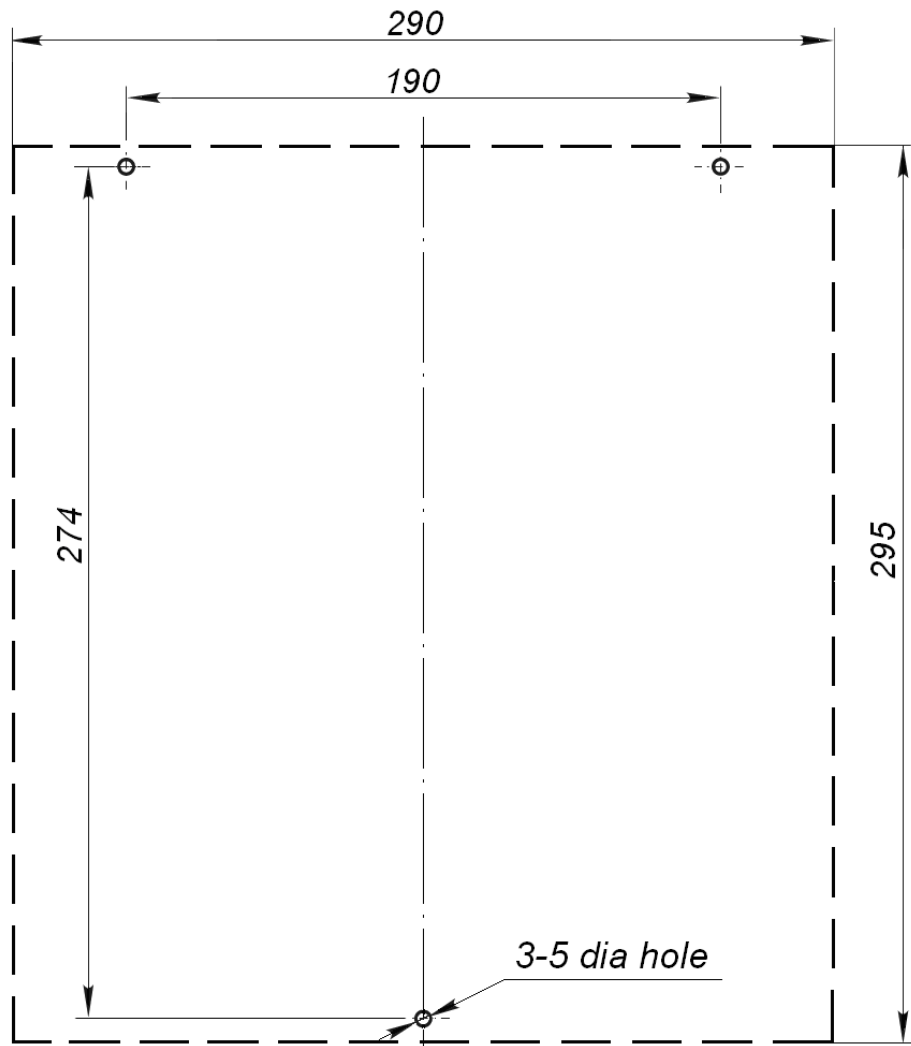

Figure 9. Hole pattern for the CU mounting on the wall
5. Take the swing panel (3) out of the transportation box. Mount the swing panel into the coupling fittings (7) of the rotary post (1). Tighten the set screws for swing panel mounting through the coupling fittings' holes with the S5 Allen key. Check if the swing panel (3) is properly fixed.
6. Check free rotation of the swing panel. To do so, unlock the mechanical release lock (6) with the mechanical release key (see section 10.1). The swing panel is supposed to be turned by hand easily and smoothly in either direction. After the check, set the swing panel to the initial position and lock the gate rotation with the key.
8. Mark out the holes for wall mounting of the control unit as shown in Figure 9. Drill the holes and insert the plastic dowels included in the installation delivery set into these holes. Insert two upper screws, hang the CU on those, and fix it with the bottom screw to prevent it from being pulled off accidentally.